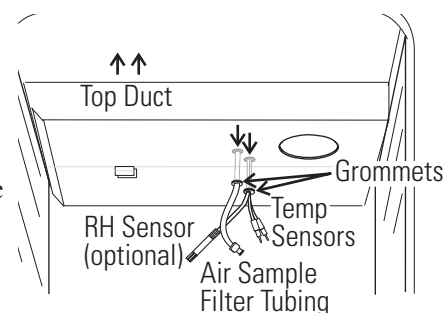

Figure 5-3. Feed Through Holes
12. Install the top duct by feeding the temperature sensors, air sample tubing (and RH sensor, if applicable) through the appropriate holes in the duct as it is raised to the top of the chamber. Be careful not to pull the grommets through the duct. See Figure 5-3.